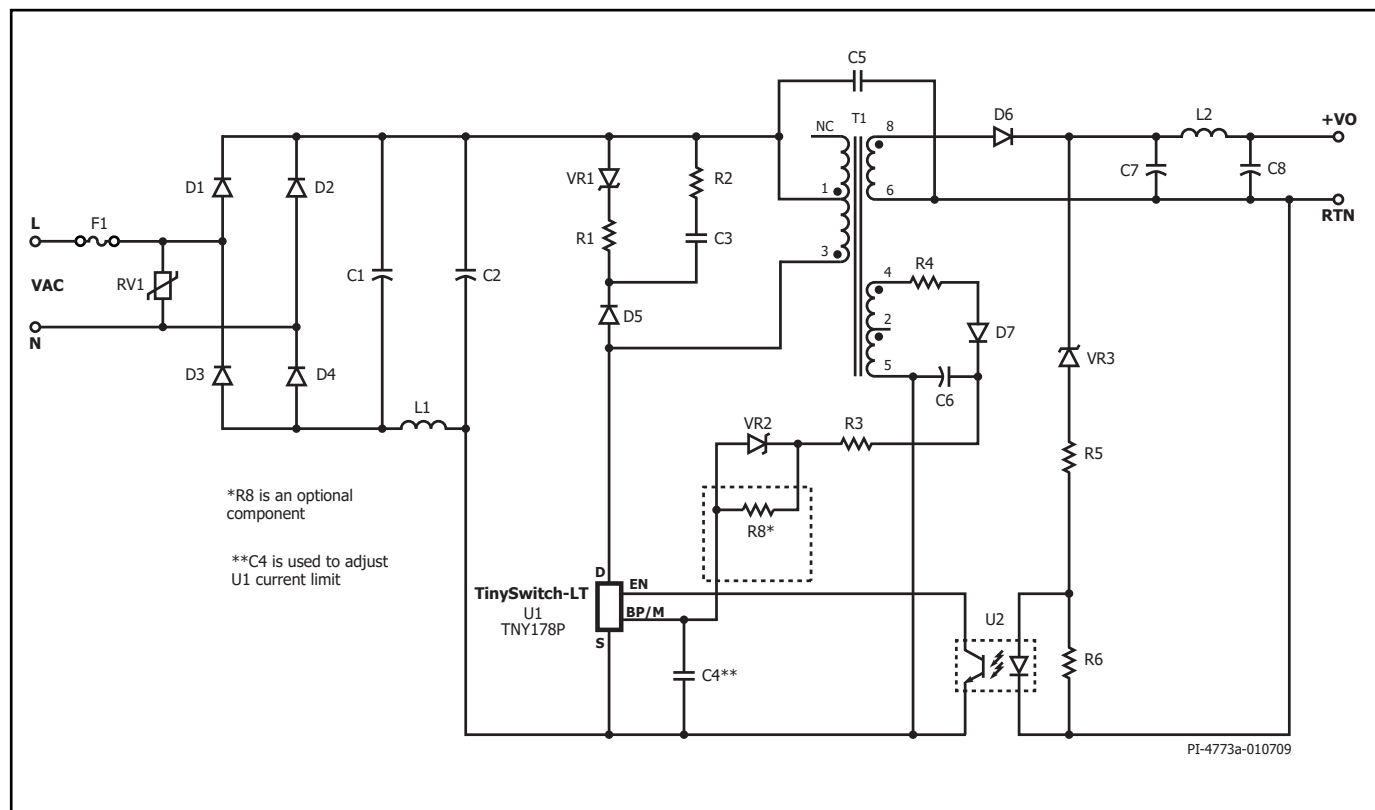

Figure 38. Typical Schematic TinySwitch-LT Flyback Power Supply.
as shown by R3 and R4 in Figure 38. Typical value is 10 Ω to 47 Ω . The resistor/s in series also limits the current that will flow on BP/M pin.
The TinySwitch-LT IC will start in self-powered mode, drawing energy from the BP/M pin capacitor that is charged from an internal current source. With the addition of a bias winding, it can reduce the no-load consumption from 150 mW down to <50 mW by supplying the TinySwitch-LT from the lower bias voltage and inhibiting the internal high-voltage current source. Resistor R3, R4 and R8 shown in Figure 38 should be adjusted to achieve the lowest no-load input power.
2. Use a Y capacitor connected from either positive or negative output terminals to the input bulk capacitor's positive terminal. In the design example (Schematic, Figure 38), the traces routing of Y capacitor C5 is connected across the high voltage primary positive rail and the other end directly to RTN output terminal. It is recommended to route the trace of Y capacitor under the transformer especially if the transformer is horizontally oriented to avoid noise to couple magnetically to the trace.